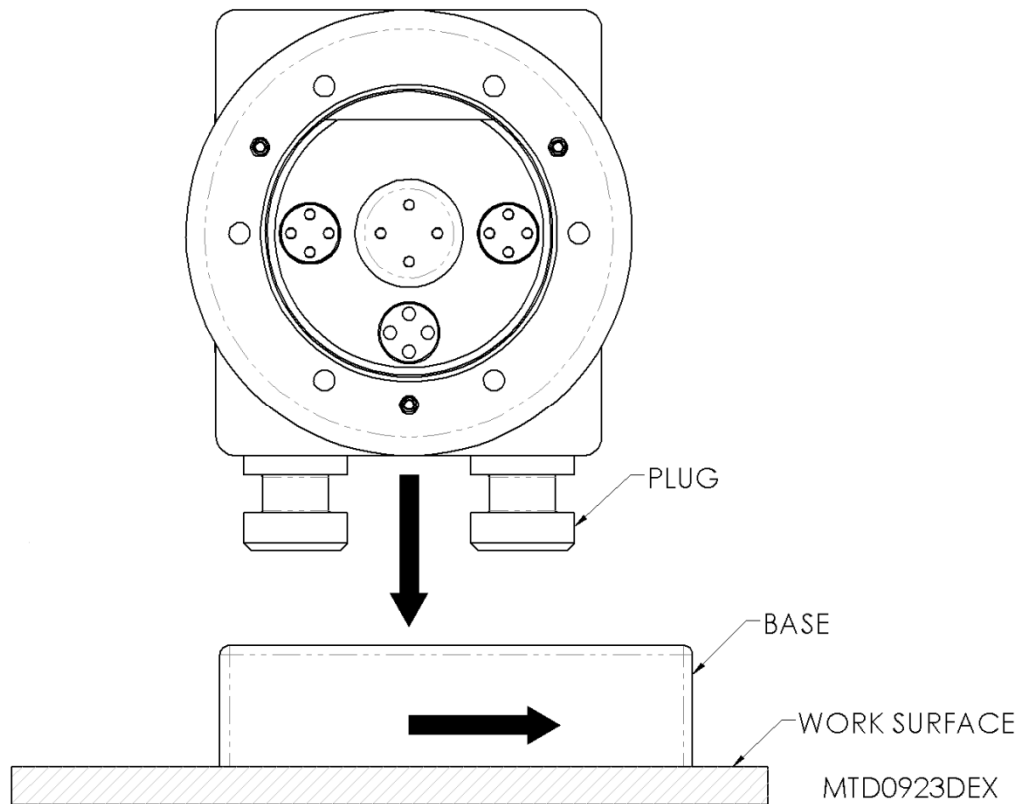

Figure 6-4: Rebuild Fixture Mounting
- Install mounting plugs in pump fluid ports and lock body into bench mounting fixture as shown in figure 6-4.